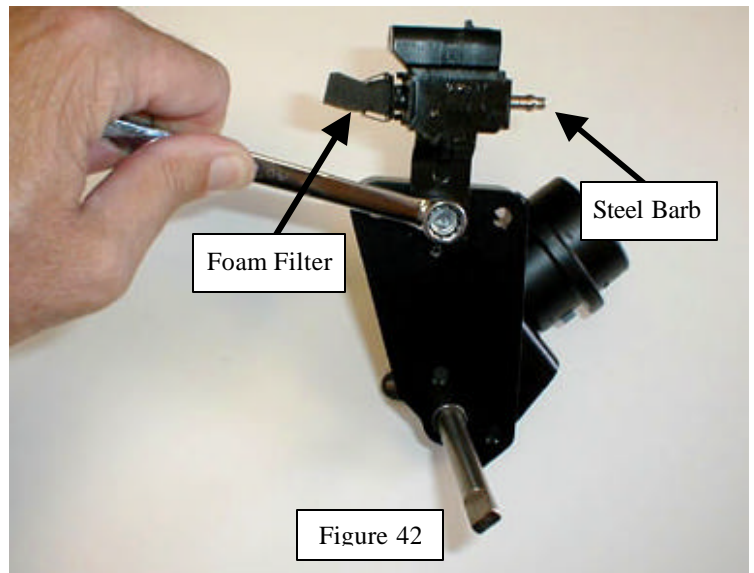

Figure 42
6. Locate bypass valve kit supplied in TRD supercharger package. Remove the solenoid valve, and 6mm flange-head bolt. Place bypass actuator assembly as shown in Figure 42, and secure solenoid valve to the actuator bracket as shown.